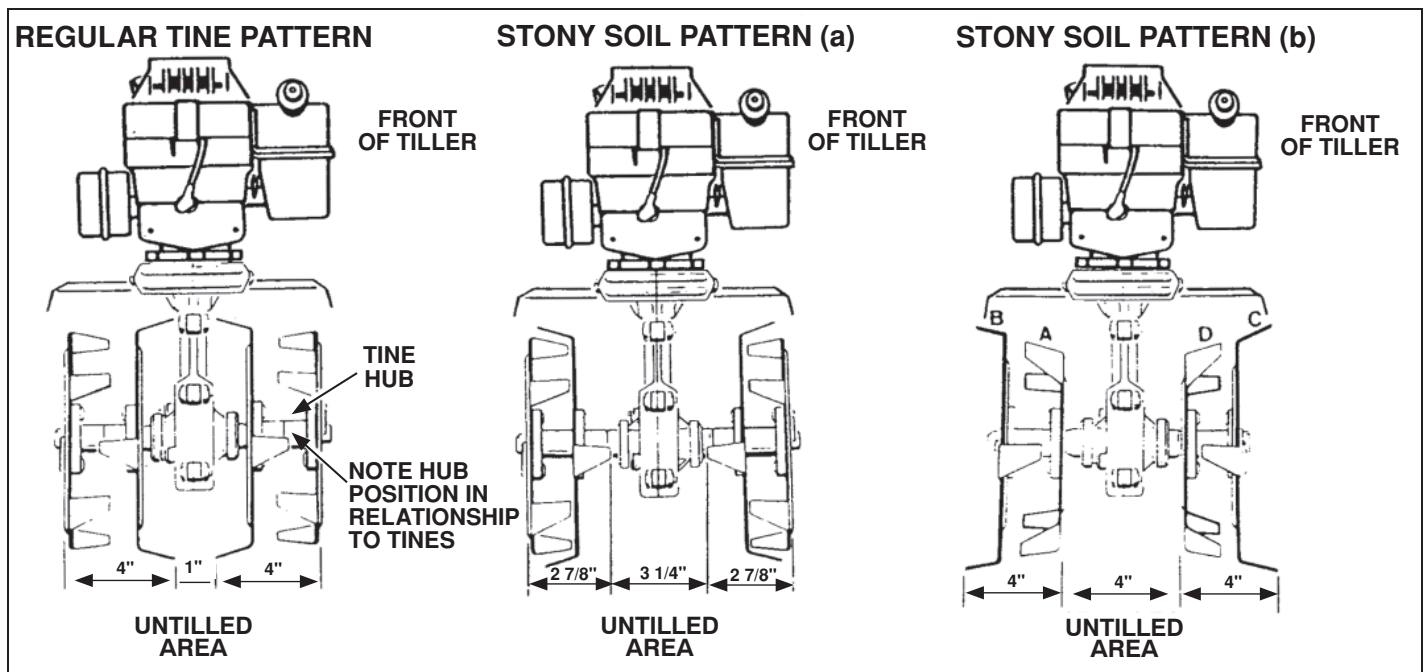

Fig. 16
9. Wearing heavy gloves, re-install tines. (For tine pattern, refer to Fig. 16 on page 11)
TINE PATTERNS FOR STONY OR ROCKY SOIL (See Fig. 16)
Wearing heavy gloves, remove tines and re-install in one of the two stony soil patterns shown in Fig. 16. If you experience difficulty in removing tines, as a result of dirt or other foreign matter on shaft, you may wish to apply a penetrating oil on the shaft. When re-installing the tines make sure tine shaft and tine hubs are clean and free of foreign material. The tines should easily slide onto the shaft.
NOTE: In the stony soil tine patterns the center gap is wider than in regular tine pattern, see Fig. 16. This will require additional passes to till this untilled area.